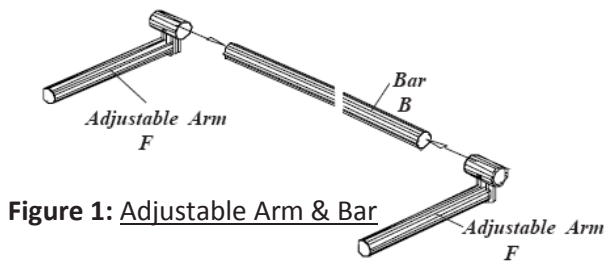

Figure 1: Adjustable Arm & Bar
1. Slide on two (or three for 1388, 1389) Adjustable arms on one bar as shown in Figure 1.
5. Slide on two (or three for Models 1386 & 1387 only) Adjustable arms on one bar as shown in Figure 1 page 1.